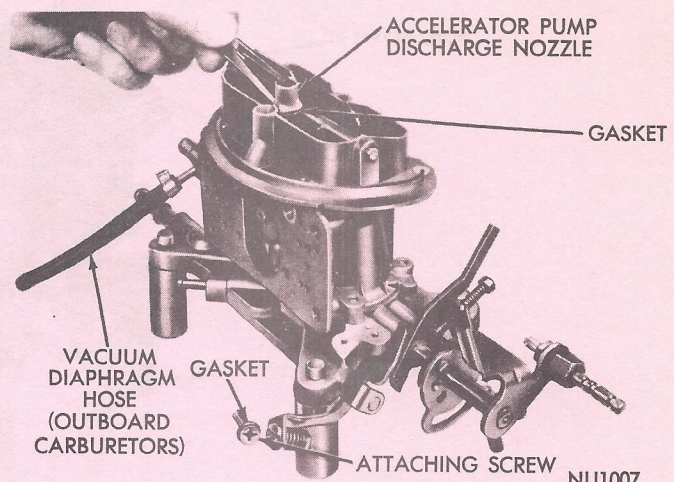

Fig. 8—Removing or Installing Pump Discharge Nozzle
(7) Remove accelerator pump discharge nozzle retaining screw, then lift out discharge nozzle (Fig. 8). Remove nozzle and retaining screw gaskets and discard. Remove vacuum diaphragm hose. (To outboard carburetors.)